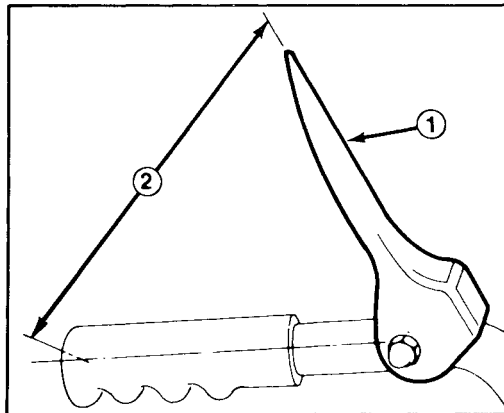

Figure 7
3. Check the distance between the center of the handle and tip of the auger control lever (Fig. 7). Distance should be approximately 5 inches (12.7 cm).